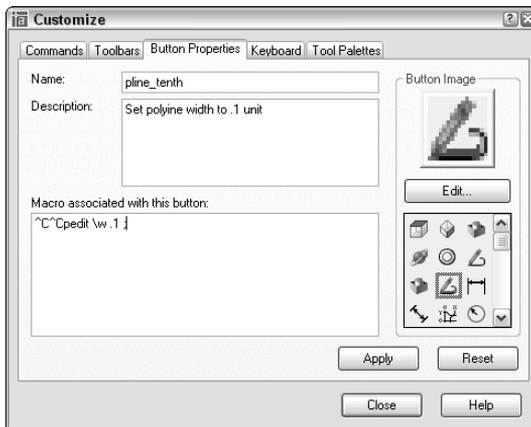

Figure 29-9: The completed Button Properties dialog box.
10. Complete the dialog box, as shown in Figure 29-9. Type the macro as follows after the `^C^C`, which is already there, being careful to include the spaces as well:
11. Choose the Polyline Edit button from the Button Icon list, as shown in Figure 29-9. Choose Edit to open the Button Editor.